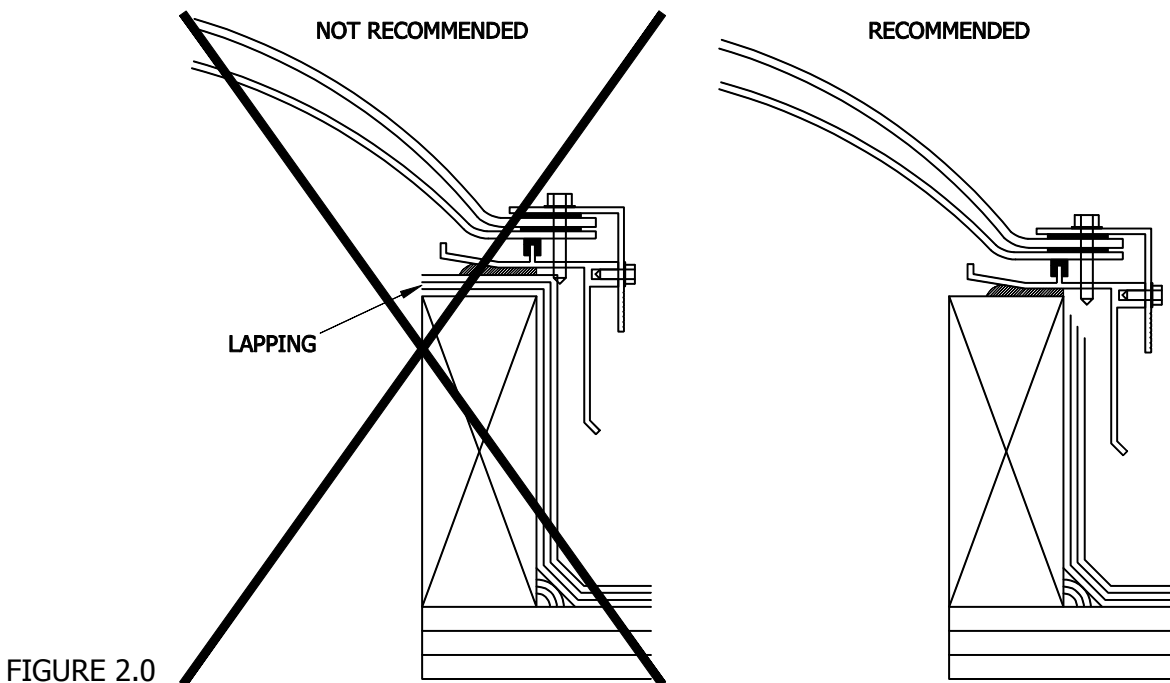

FIGURE 2.0
- Running the roof material up the side of the curb is common. Running or lapping the roof material over the top of the curb is not recommended (See Figure 2.0). This practice often creates an uneven surface for mounting the skylight resulting in a poor seal even with the application of a sealant bead on the top of the curb before installing the skylight. The result is often air and/or water leakage between the skylight and curb to the interior of the building.